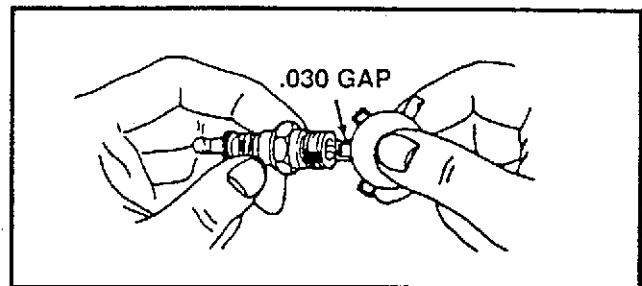

FIG. 6-MAINT
- Clean the spark plug and reset the gap periodically (See FIG. 6-MAINT).